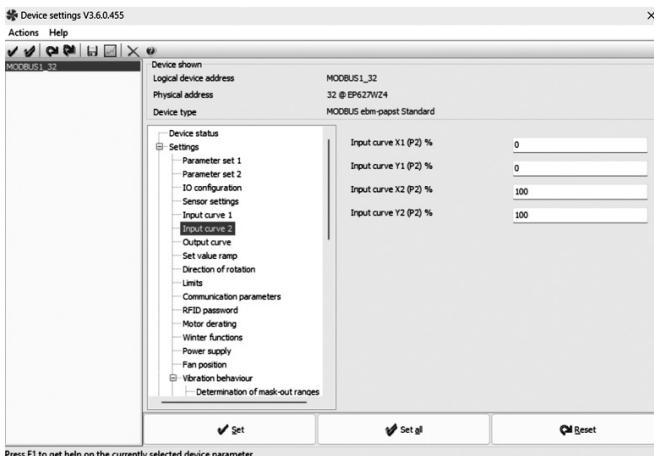

Fig. 25 — EC-Control Setting for Input Curve 2 for Full Speed Fan Operation
- Check that inputs match those of Fig. 25, where: